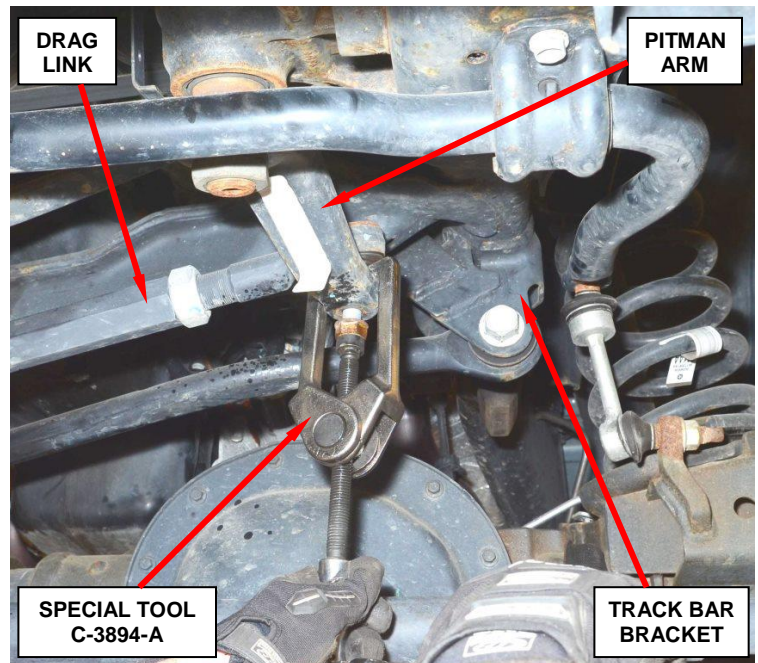

Figure 8 – Disconnect Drag Link from Pitman Arm
9. Using special tool C-3894-A, disconnect the drag link from the pitman arm (Figure 8).